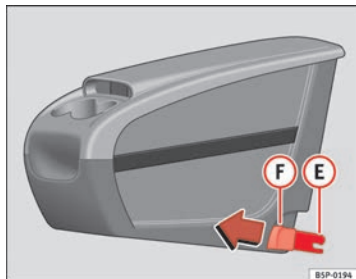
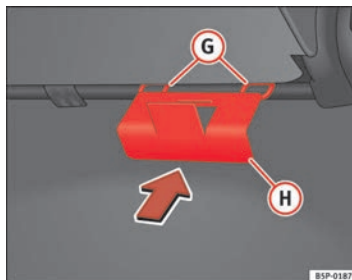

Fig. 112 Mobile stowage compartment Installation
Fig. 113 Mobile stowage compartment mounting plate
- Fit the mobile stowage compartment mounting plate ④ ⇒ fig. 113 from the inside of the vehicle, through the rear section of the seat. It should be fitted between the back rest and the seat, in the central seat area.
- Set both mounting pieces together **E** ⇒ page 142, fig. 112, with both mounting rings **G** ⇒ page 142, fig. 113 and press hard until both the clips completely connect with the rings.
- Pull each of the buttons ⇒ page 142, fig. 112 **F** on the clips (red buttons) forwards, until they snap out of place.